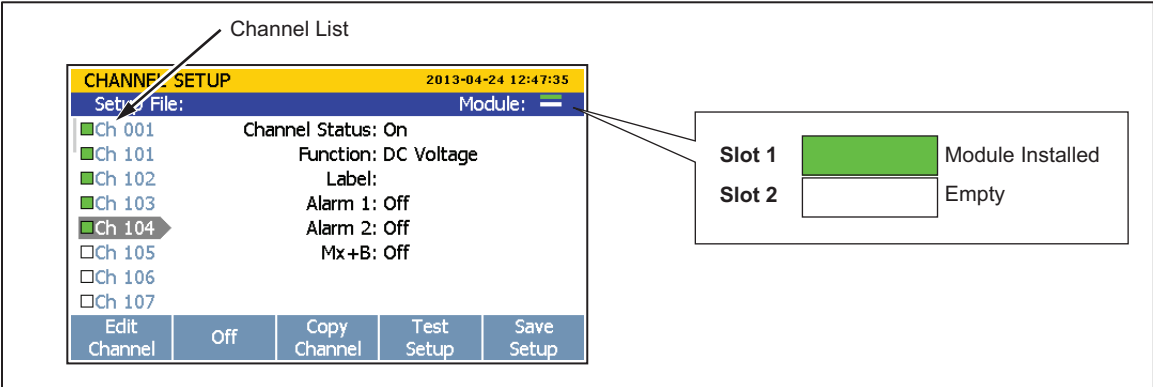

Figure 2-5. Module Indicator Example
- 4. Verify that the module indicator appears green on the main screen (see Figure 2-5).
10. Verify that the module indicator appears green on the main screen (see Figure 2-5).